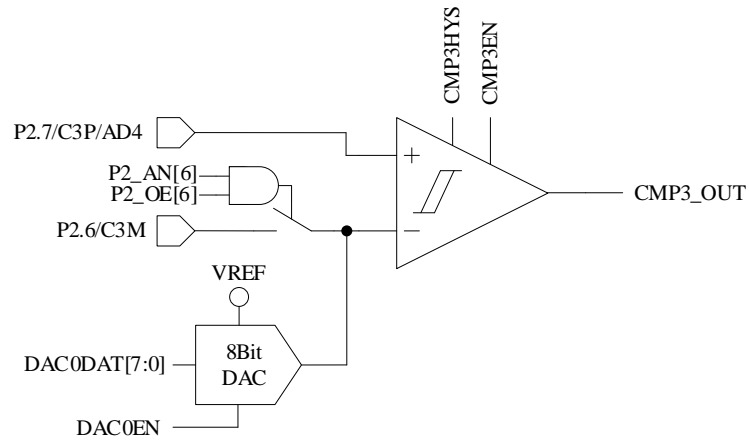

Figure 29-2 Single-comparator Input Mode
- When CMP3MOD = 00, CMP3 works in single comparator input mode. The connection of input and output pins are shown in Figure 29-2.